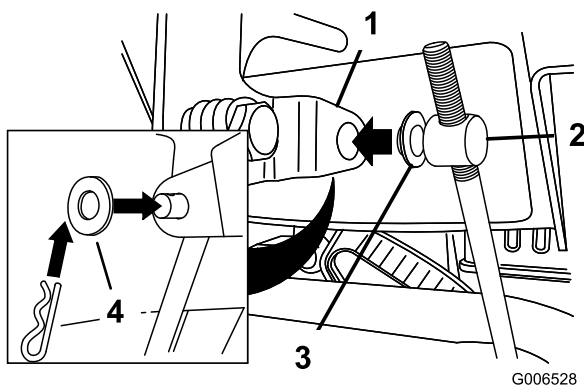

Figure 5
3. Place a flat washer on the trunnion (Figure 5).
6. Push down on the speed control rod and insert the trunnion into the hole in the speed selector lever (Figure 5).
- B. Disconnect the trunnion from the speed selector lever (Figure 5).
- C. Turn the trunnion downward (clockwise) on the speed control rod (Figure 5).
- D. Connect the trunnion to the speed selector lever (Figure 5).